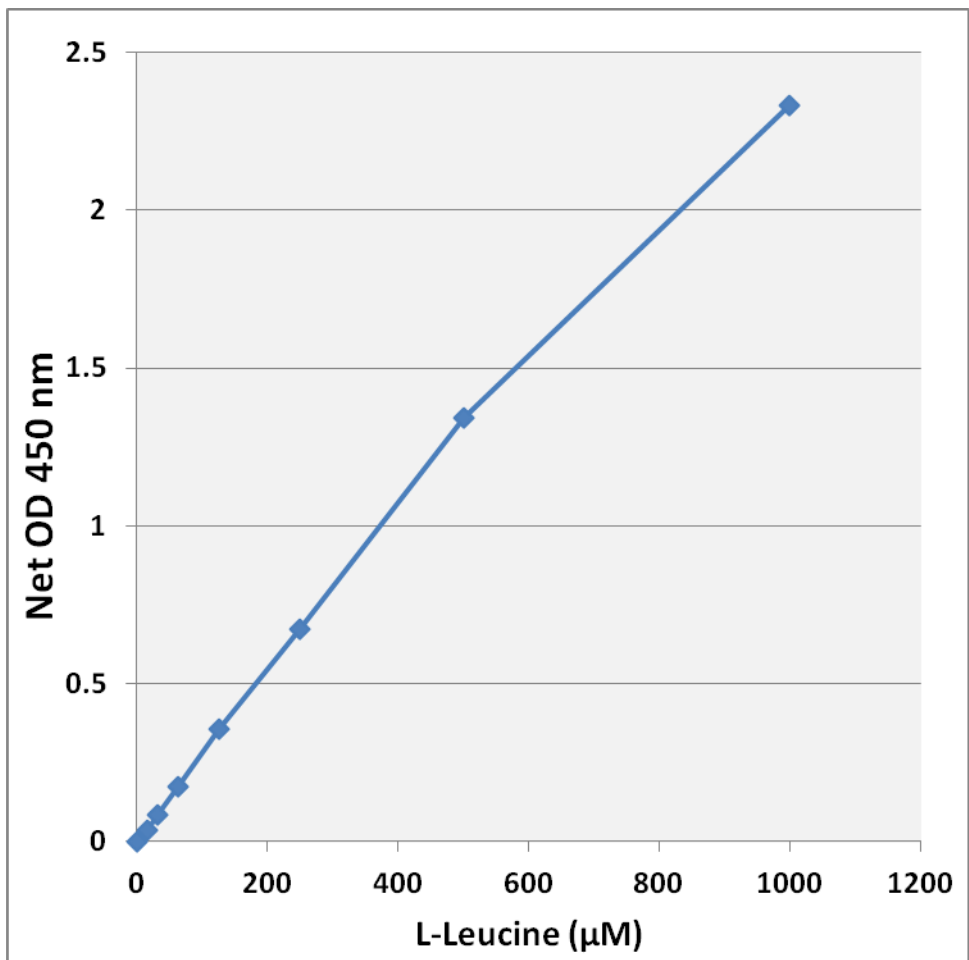

Figure 2: L-Leucine Standard Curve.
3. Graph the standard curve (see Figure 2).